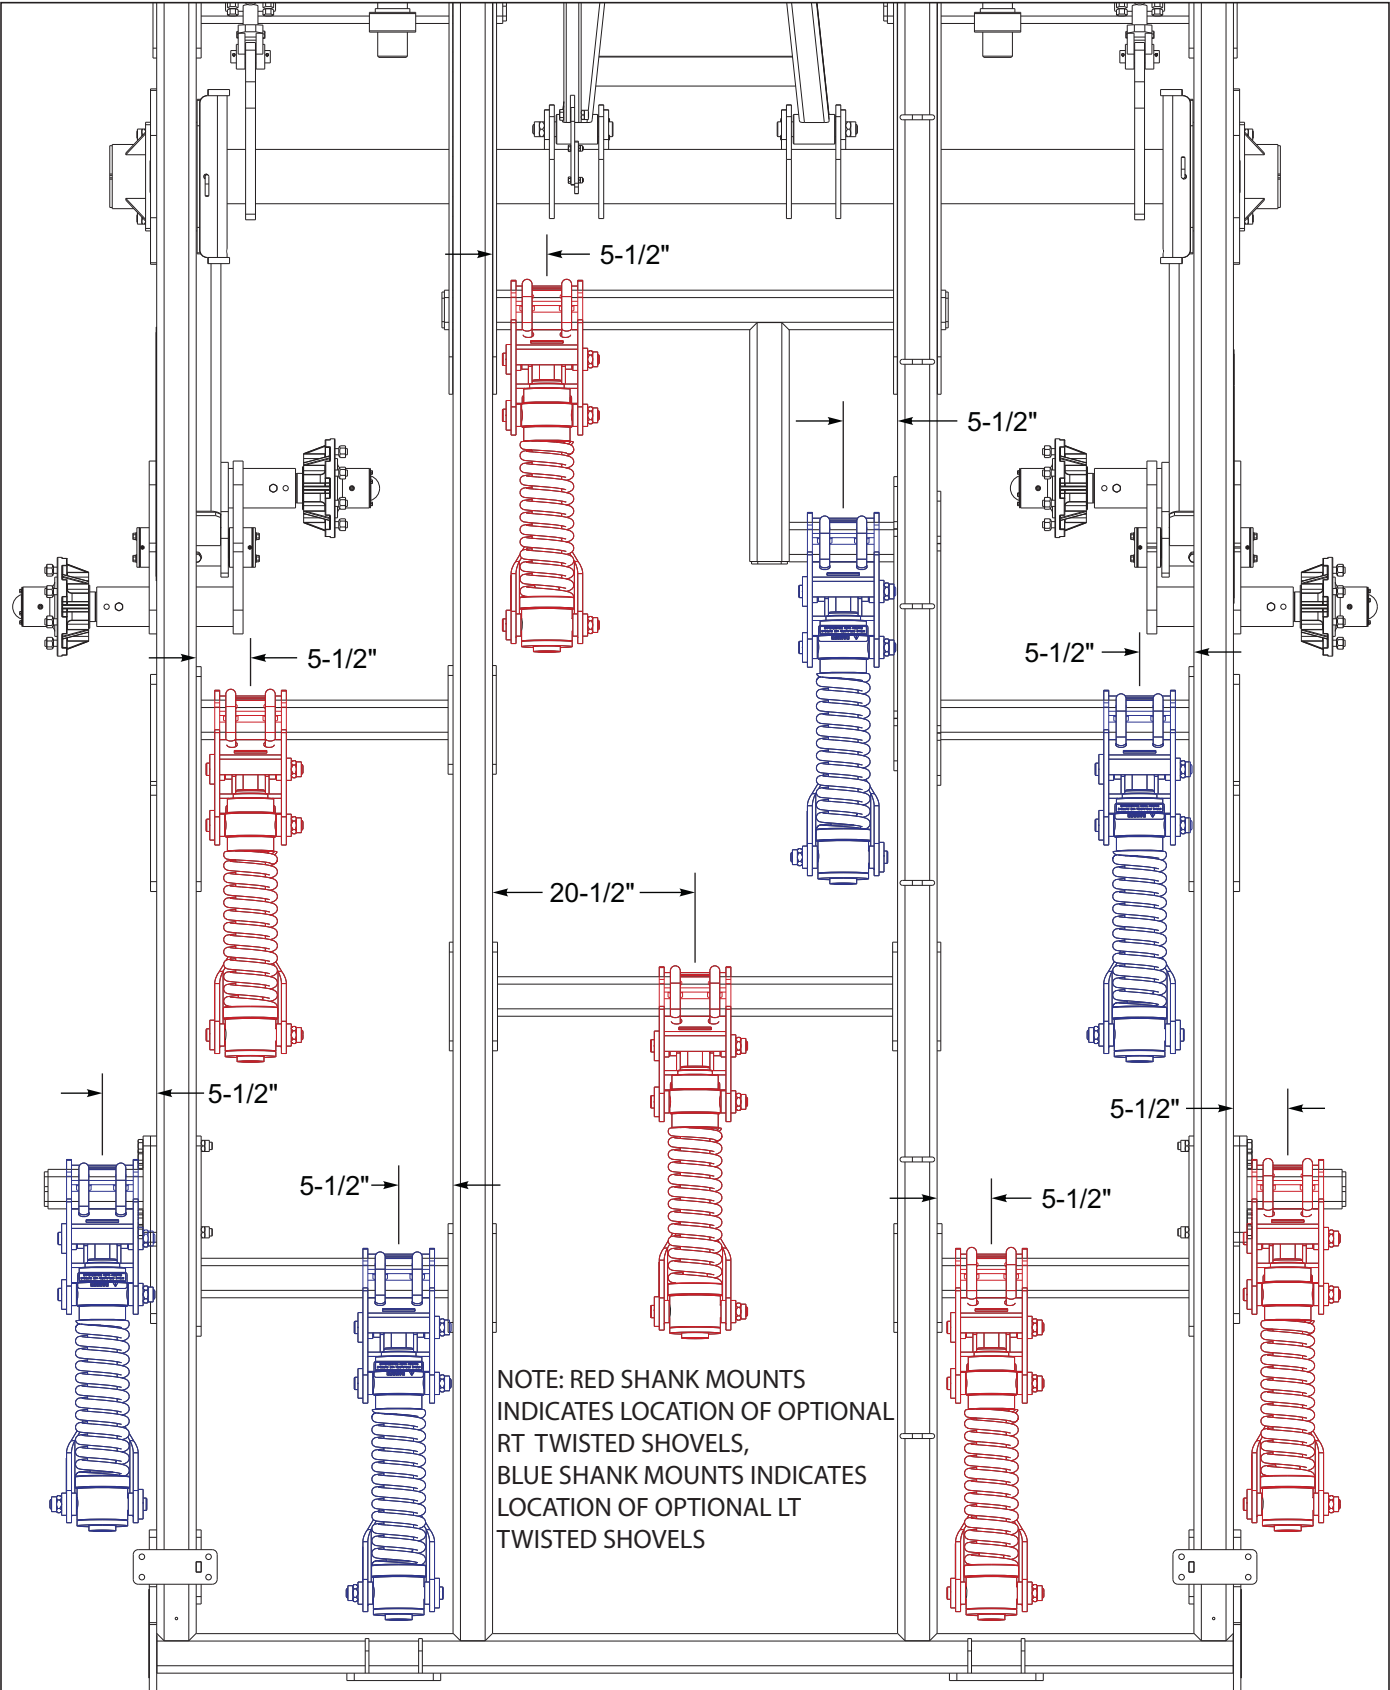
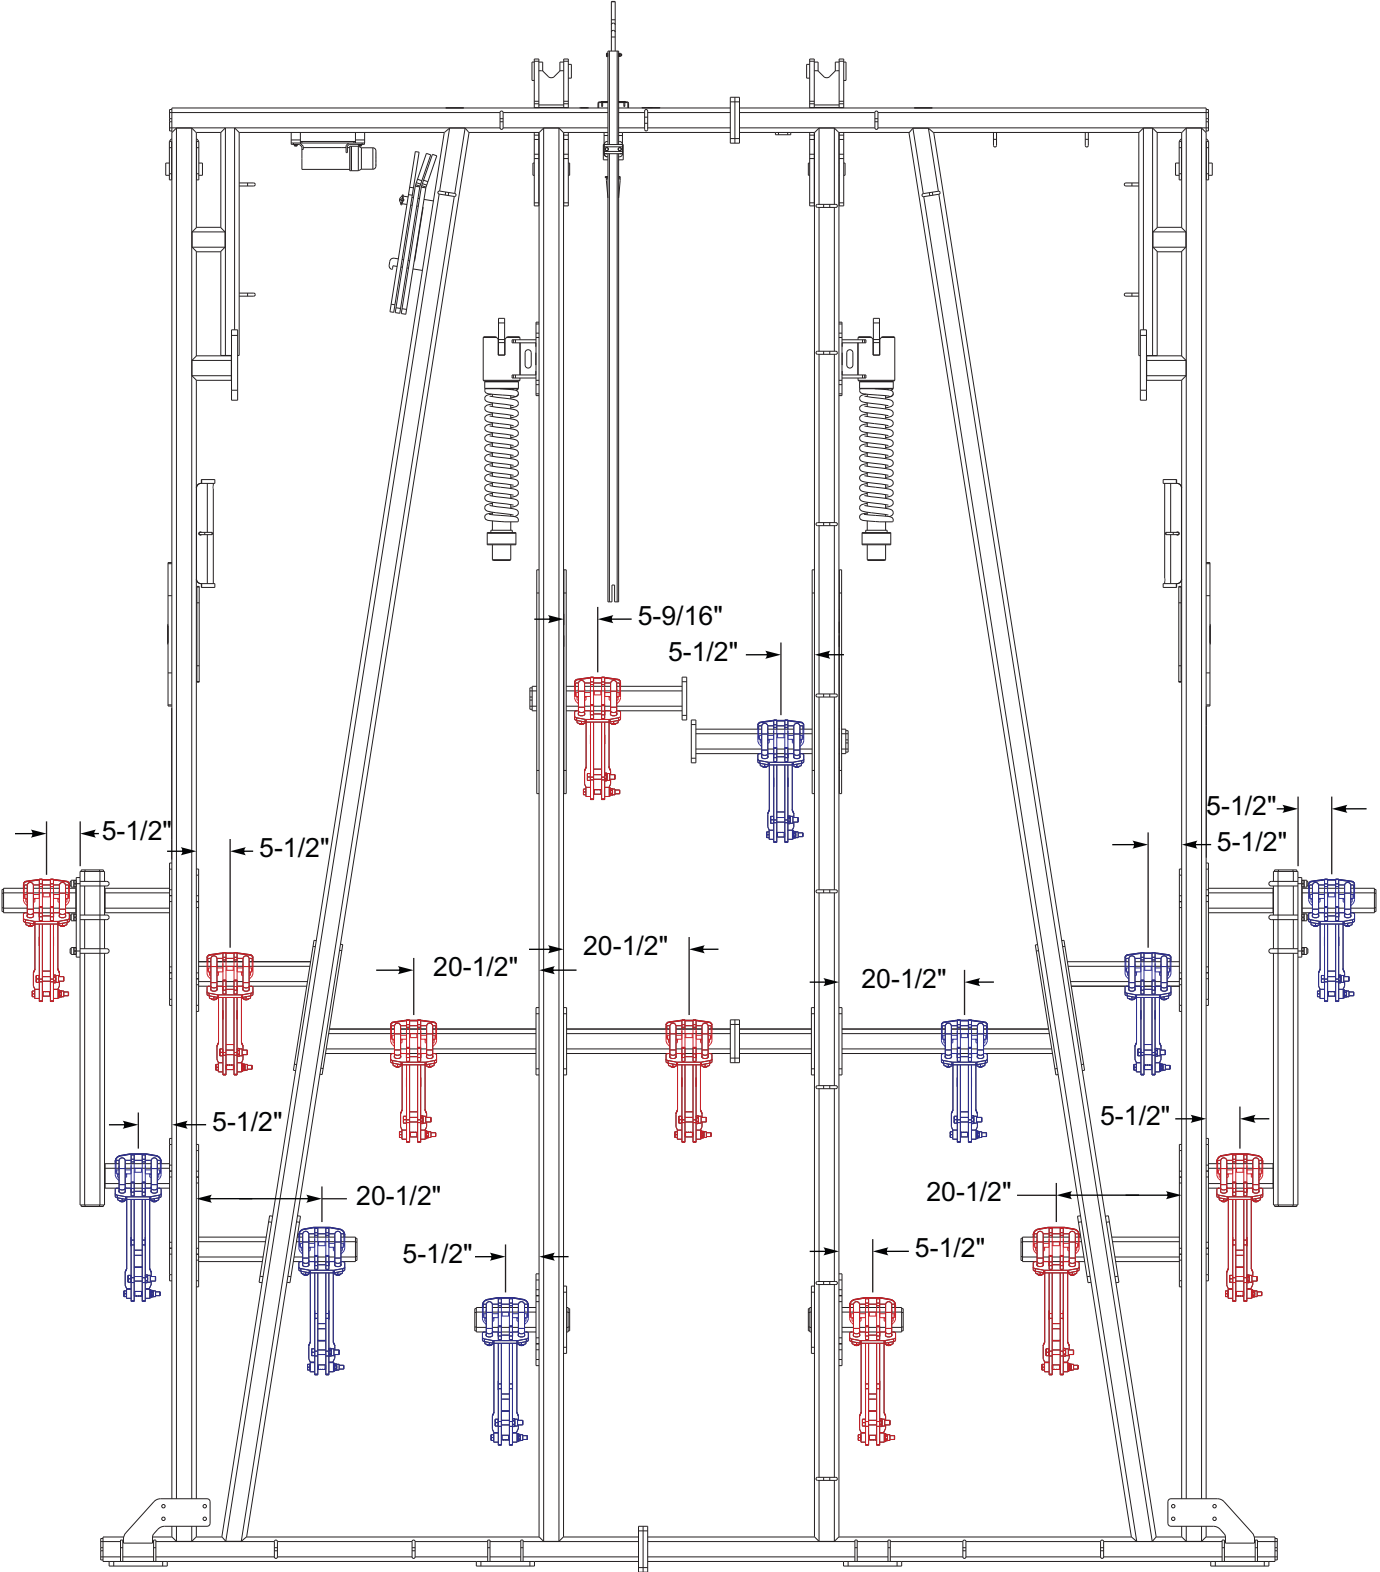

Figure 2-6: Auto Reset Shank Placement 2112-09
Figure 2-11: Rigid Shank Placement 2112-15
2. Remove any shank assemblies or extensions that may have been turned around or mounted inside the frame for shipping, and reposition, See Figures 2-6 through See Figures 2-11 in "STANDARD SPECIFICATION" section for shank placement.